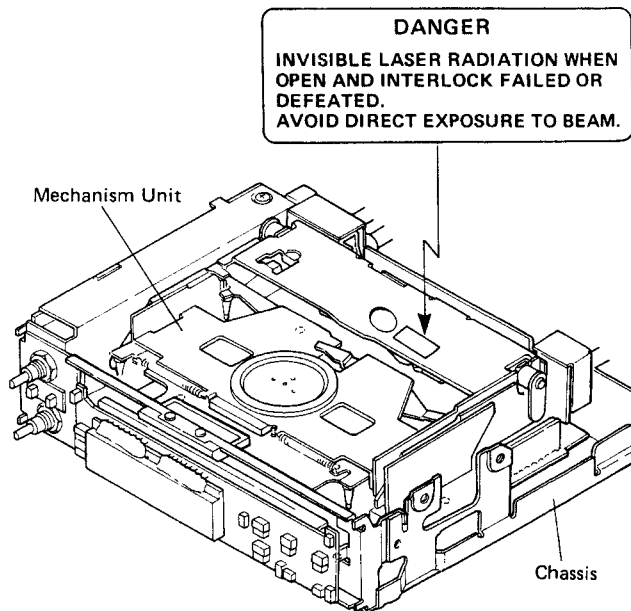

Fig. 3-1
3. The WARNING label is attached to the mechanism unit plate unit and right side of the case. (Fig. 3-1, 2)